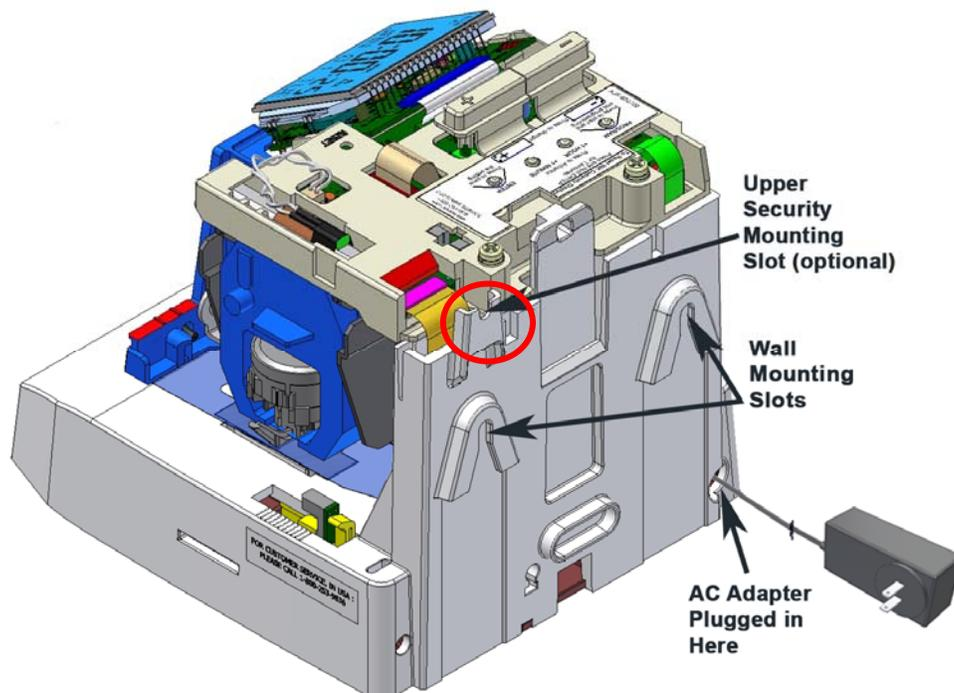

Figure 2: PIX-75 Rear View for Wall Mounting.
1. Using the supplied mounting template (see last page of this guide), mark the two (2) mounting slots on the wall. A 3rd mounting slot can be used to provide security (see Figure 2).
4. If security is an issue for removing the PIX-75 from the wall, remove the cover, and use the upper mounting slot (see Figure 2 and Figure 8 on page 2-30) to firmly secure the back of the PIX-75 to the wall. Secure to the wall using #10 wood screw (or equivalent).